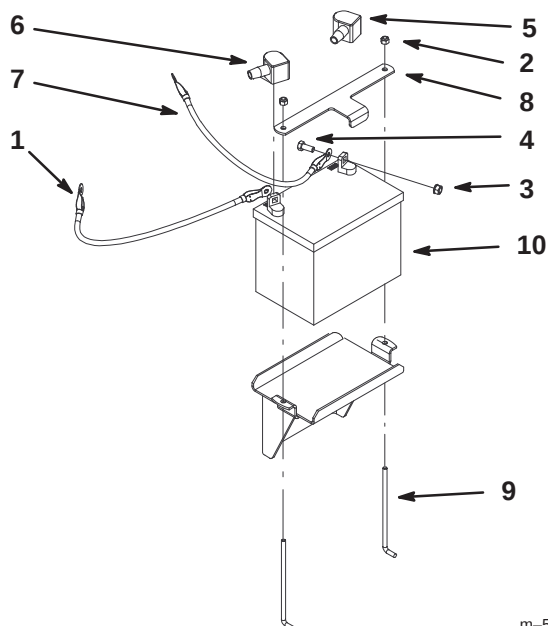

Figure 33
6. Connect the positive (red) cable to the positive battery post with a bolt (5/16 x 3/4 inch) and nut (5/16 inch) (Fig. 33). Slide the rubber cover over the battery post.
7. Connect the negative (black) cable to the negative battery post with a bolt (5/16 x 3/4 inch) and nut (5/16 in.) (Fig. 33). Slide the rubber cover over the battery post.